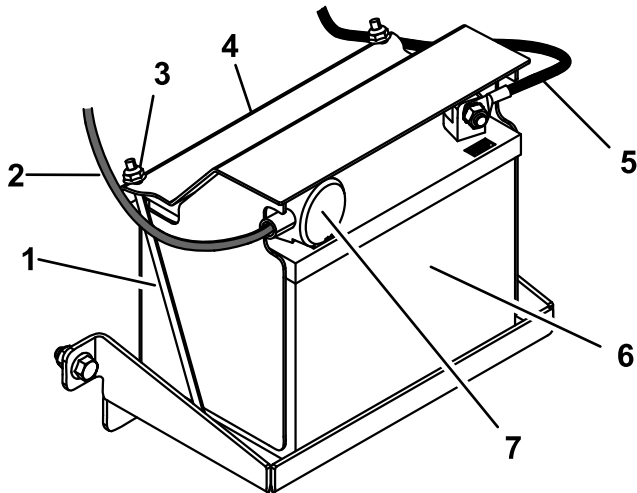

Figure 28
- Place the battery on the tray and secure it using the battery cover, 2 securing rods, and 2 nuts (Figure 28).
- Slide the red terminal boot onto the positive battery post (Figure 28).